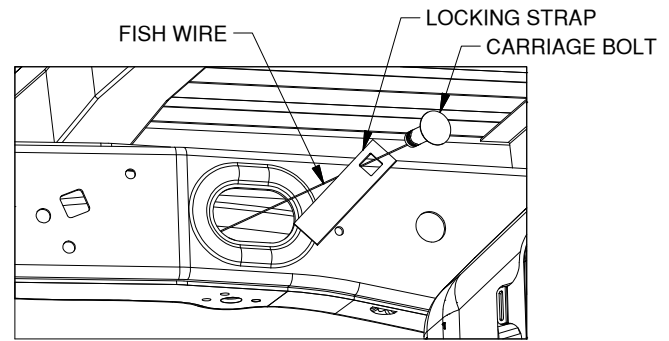

Figure C3: View under bed looking at inside of driver side frame.
2. **Thread fish wire through frame.** Insert the coil end of the fish wire into the 1" hole and pass it through the frame out the access hole. Thread the locking strap onto the fish wire and attach the coil end of the hardware to the carriage bolt, see Figure C3. Push the hardware into the frame. Pull the fish wire until the carriage bolt is through the frame, leave the fish wire attached to the carriage bolt. Repeat with the 7/8" hole.